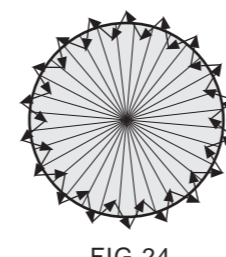

FIG.24
- 4.3.4 Walk from outside across to the detection pattern until LED turns on for approx. 2sec then off, the next trigger should be 2sec interval (See FIG.24).